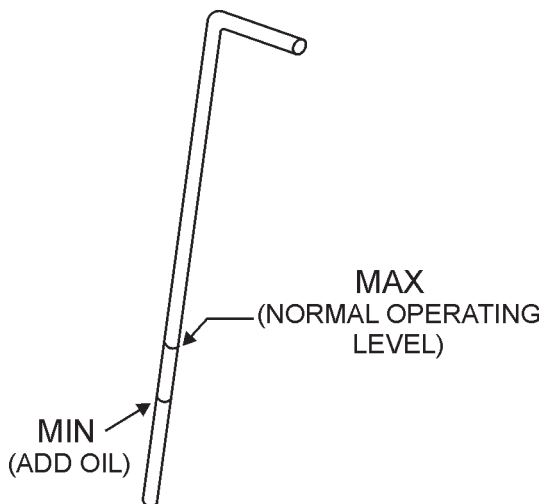

Figure 27. Lubrication Box Dipstick
1. Loosen the pillow bearing bolts (Figure 27) only to the point where the bolts will remain snug.